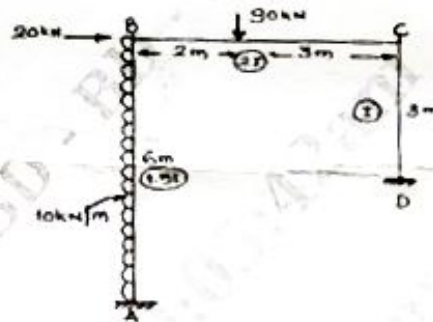

Fig.Q2
2. Analyse the given frame by slope deflection method. Draw SFD, BMD and elastic curve. Refer Fig.Q2.